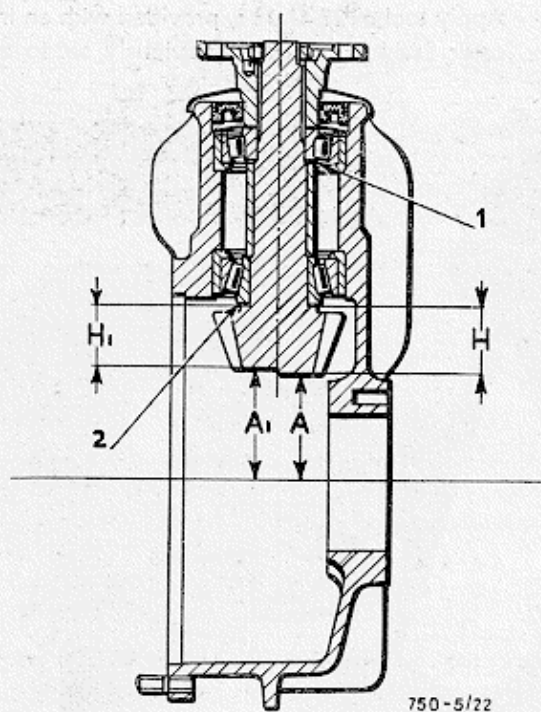

Fig. 22 - Mounting the bevel pinion in the differential housing
The distance **A** or **A 1** (Fig. 22) should be 57 mm. (2.244"), plus or minus the amount marked on the pinion shaft; if this value is preceded by the + sign, the distance should be 57 mm. plus the figure and, if it is preceded by the — sign, 57 mm. minus the distance indicated on the pinion. A check is made as follows:
- 1) When production was started, pinions H1 = 32.5 mm. (1.278") in height, Fig. 22, were fitted; the distance A1 should therefore be 59 mm. (2.322"). The fixture shown in Fig. 24 has two flat surfaces, and the appropriate surface should be used to correspond with the figure involved. It should be noted that the heights of the flat surface above the base of the fixture are actually 70 mm. (2 3/4") for pinions having H = 34.5 mm. (1.357") and 72 mm. (2.834") for those having H1 = 32.5 mm. (1.278") so as to take into account the diameter (26 mm.) of the centre pin on which the gauge of fixture 6123.27.028 rests.